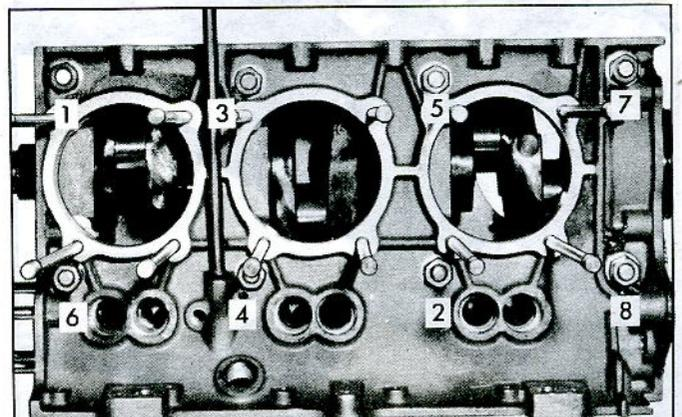

Fig. 59—Crankcase Torque Sequence
5. Seal crankcase parting line ends with sealer and install crankcase half to right crankcase half. Install crankcase bolts (8 long) finger tight, then place crankcase on two short lengths of wood (2 x 4) and torque crankcase bolts to specifications in the sequence shown (fig. 59).